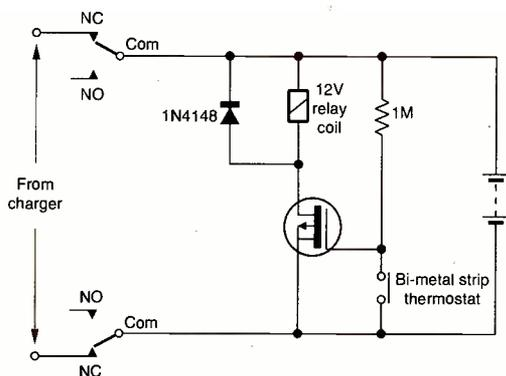

Fig. 4: Relay circuit to switch off the charger.
The solution is to use a MOSFET and a 1MΩ resistor, see Fig. 4. Almost any MOSFET will do. I use an ISO-TO220 type for convenient assembly and choose a low-specification type (<4A, <400V etc.). When the battery is cool and the thermostat is closed, the relay is released. This leaves the battery connected to the charger via the normally-closed (NC) contacts. The current drain via the 1MΩ gate-bias resistor is not significant in compar-